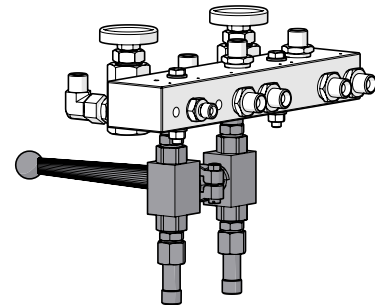

Fig. 49: Ratio check unit on the intermediate piece
- If the machine is equipped with an external mixing unit and/or flowmeters for the flow rate measurement, the ratio check unit is mounted on the intermediate piece (see Fig. 49).